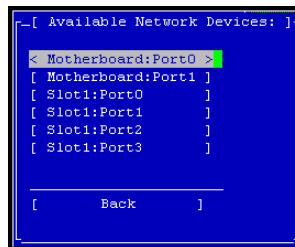

Figure 209. Available Network Devices Window
1. On the Configuration Interface main menu, tab to Network TCP Status and press Enter. The Available Network Devices window opens, shown in Figure 209.